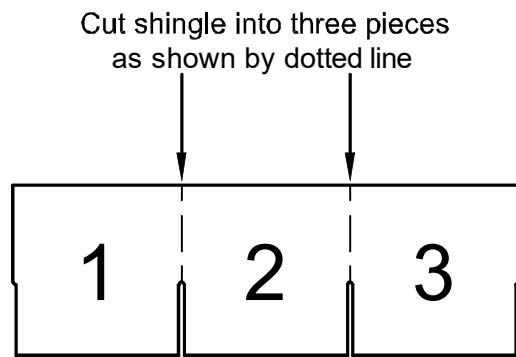

Figure 43. Shingle cut into thirds
3. **Install shingle cap.** Starting at the opposite end of the home from the prevailing wind, install ridge cap shingles provided by the manufacturer or use 12" x 12" shingles (36" shingles cut into three equal pieces) (Figure 43). Install using 1" x 1" x 16 ga galvanized staples or 12 ga 1-1/4" long, 3/8" diameter head roofing nails spaced 5-5/8 inches from bottom edge and 1/2 inch to 1-1/2 inches in from both edges. Cover the exposed fasteners with tar or cement.